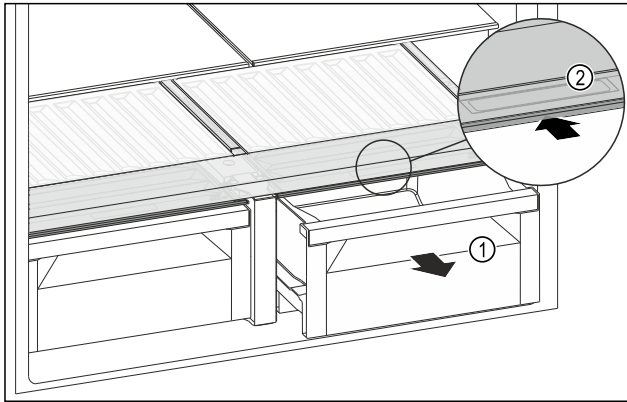

Fig. 130
- ▶ Pull out the drawer Fig. 130 (1).
- ▶ Grasp the recessed grip Fig. 130 (2) on the compartment lid and push the compartment lid backwards at the same time.